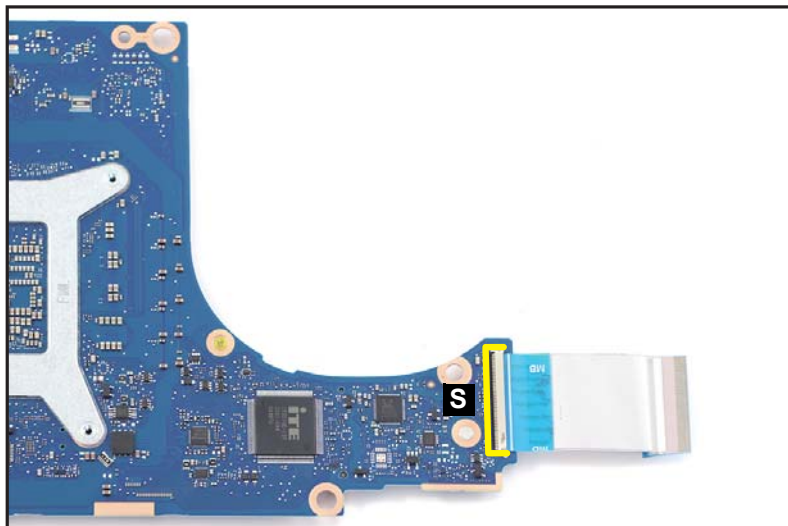

Figure 1-46. Mainboard Removal
16. Disconnect the DB FFC from the mainboard connector (S) (Figure 1-46). Then remove the FFC.